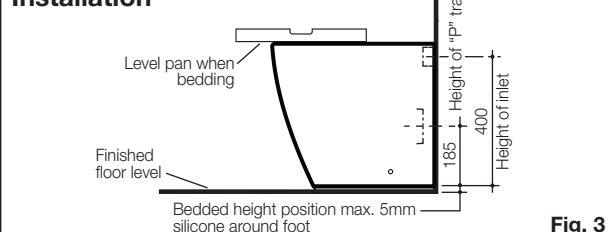

Fig. 3
- 9- Position and push pan into connector ensuring that the flush pipe and keeseal engage into the pan inlet. Locate plastic fixing sleeve into holes in the pan. Fit screw into the bracket and tighten to bed pan to floor while ensuring level, as detailed in **Fig. 3**.